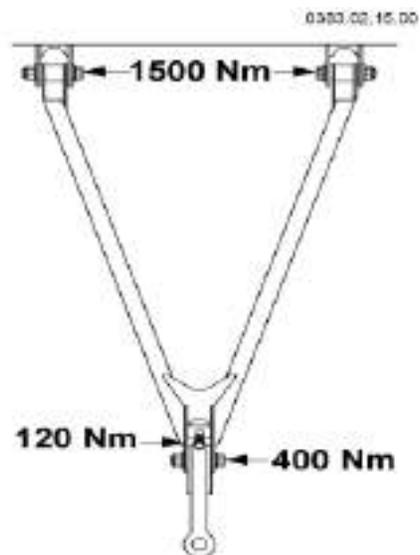

Figure 27. Torques
3. Remove the bolts (1) (see Figure 27 on page 7-6) and the locking plates (3) from both sides of the baler.
5. Loosen the bolts (2) from both sides of the baler.
7. Tighten the bolts (2) finger tight on both sides and make sure serrations are alligned on the flange plates (5).
8. Tighten the bolts (2) with the correct torque on both sides of the baler.
9. Install the locking plates with the bolts (1) on both sides of the baler.
10. Loosen the bolts (9).
11. Adjust the bolt (8) until the draw bar head is in a horizontal position.
12. Tighten the bolts (9).